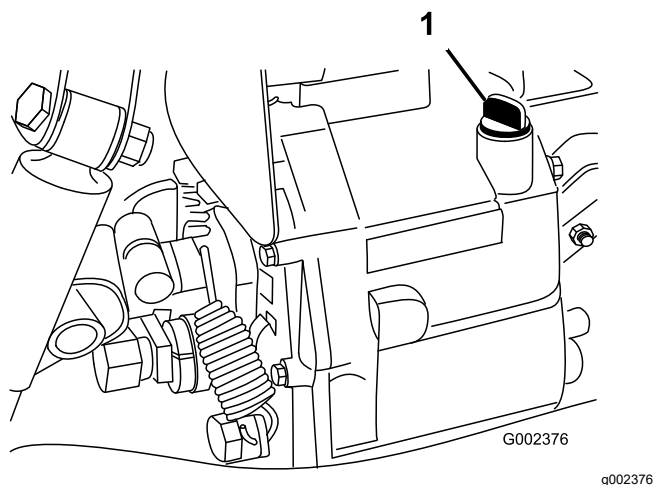

Figure 19
2. Clean the area around the dipstick (Figure 19).